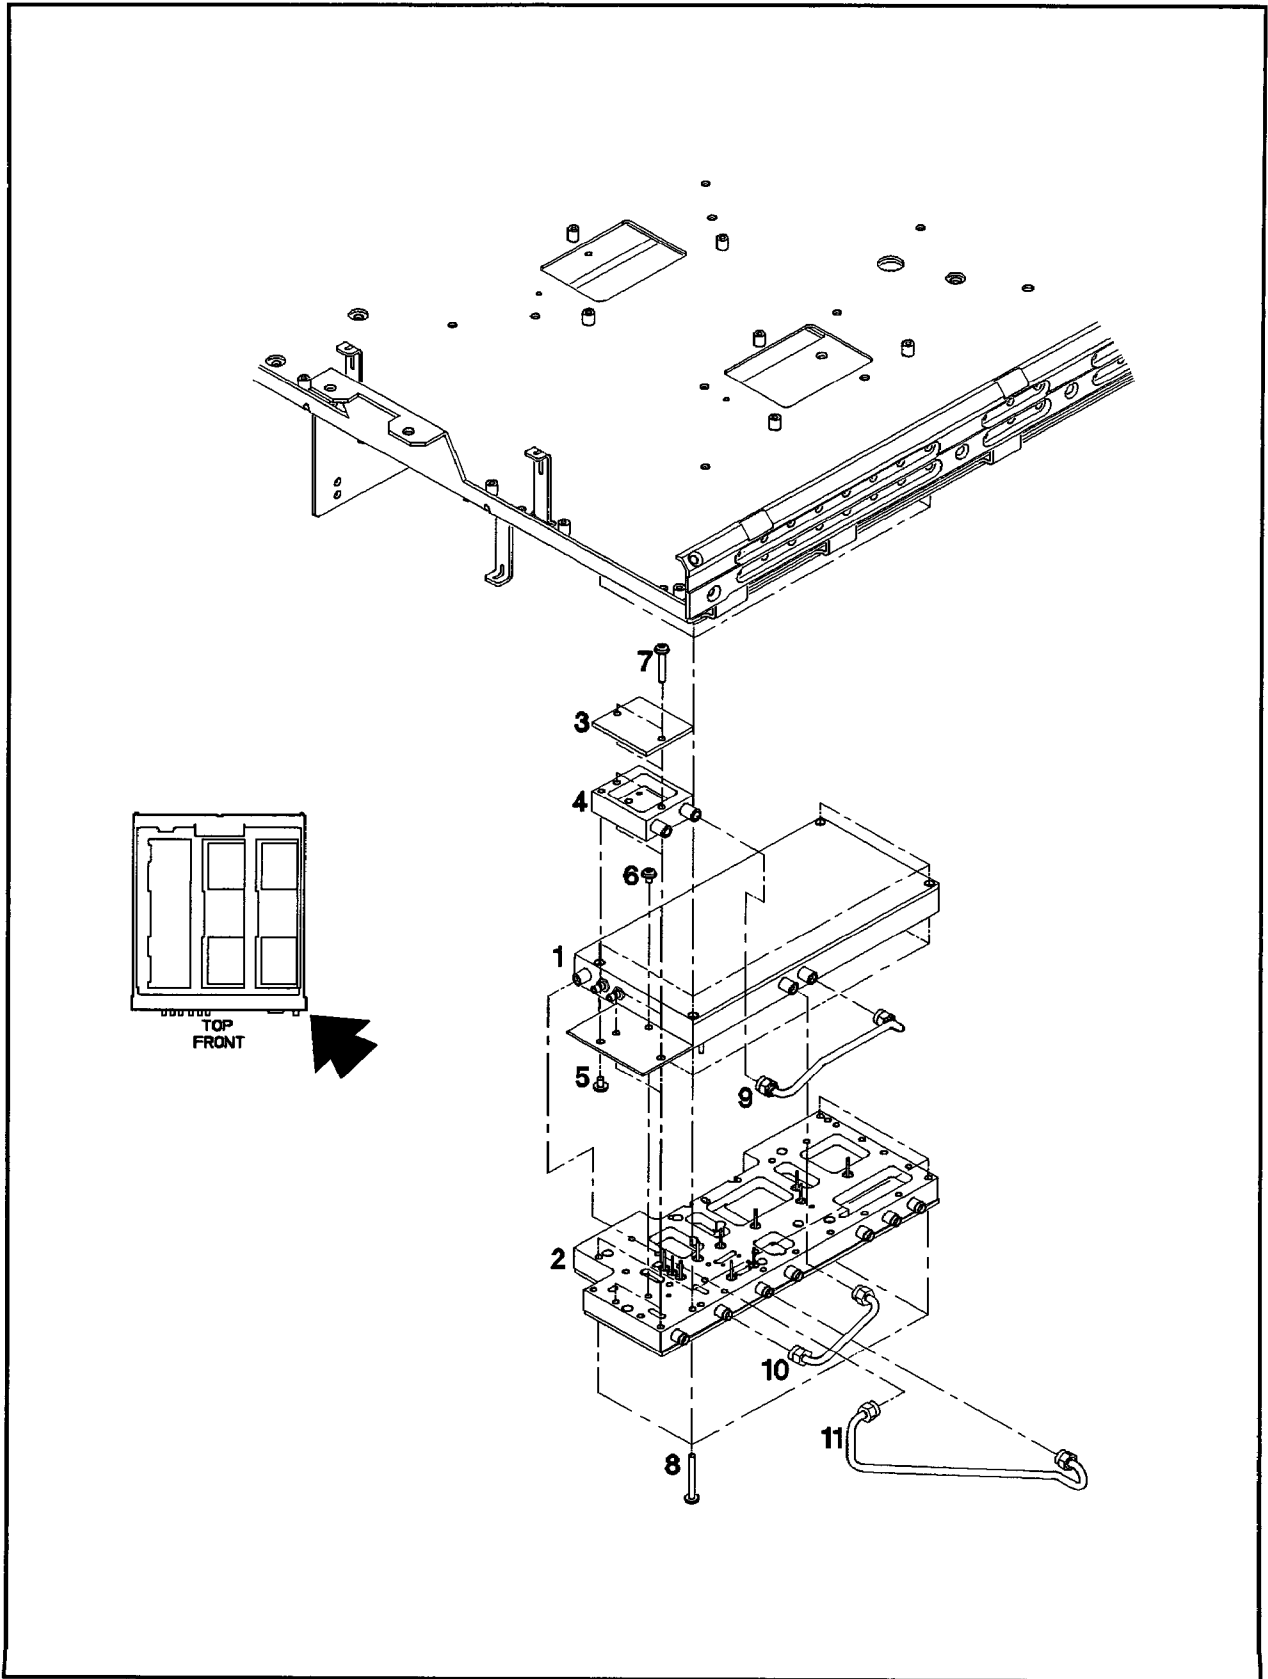

Figure 4-15. Microwave Output and SLPFA Illustrated Parts Breakdown
**Table 4-17. Illustrated Replaceable Parts (Figure 4-15)**